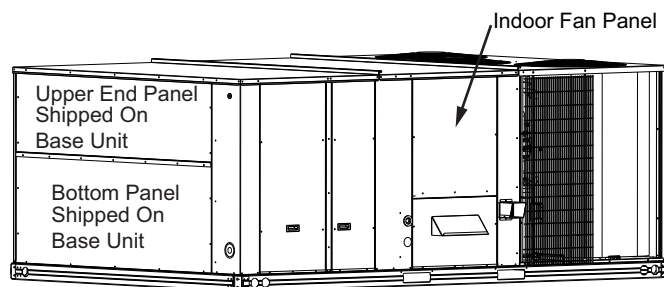

Fig. 2 — Upper and Bottom Panel on End of Unit
3. Remove the upper panel and bottom panel (provided with the HVAC unit) on the end of the unit to expose the return section. (See Fig. 2.) Save the screws for use later when replacing the panel. The panels can be discarded.
9. Remove the indoor-fan motor access panel. (See Fig. 2.)